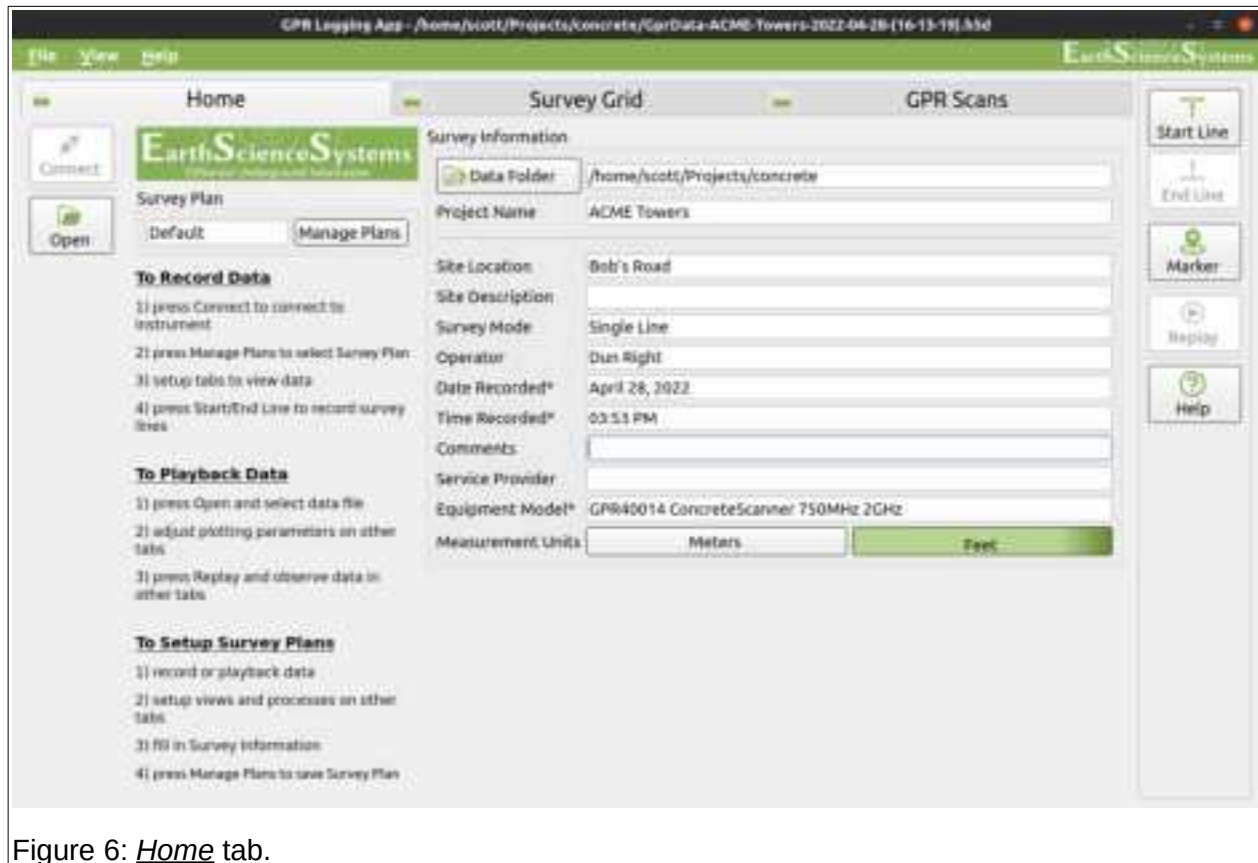

Figure 6: Home tab.
Surveyor Pro has many more features than Surveyor Mobile, but requires a Windows PC. After opening the Surveyor Pro acquisition program, the Home tab will be displayed (see Figure 6). Here the user will specify project specific information and conduct a new survey, or open previously collected data to replay.
6. Enter the jobsite information into the Home tab (see Figure 6). Then click Manage Plans to save this information if desired.
6. Enter the job site information into the Home tab (see Figure 6). Then click Manage Plans to save this information if desired. Lastly, specify a data storage directory by clicking the Data Folder button.